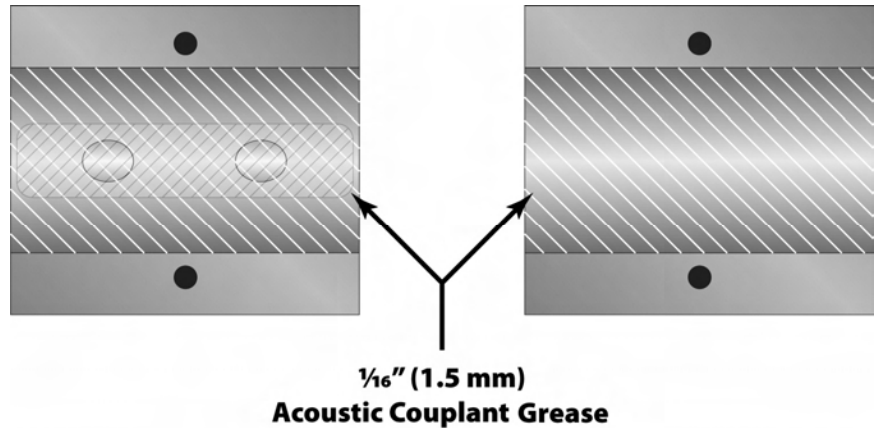

Figure 2.6
1. Apply a thin coating of silicone grease to both halves of the transducer housing where the housing will contact the pipe. See **Figure 2.6** on page 2.13.